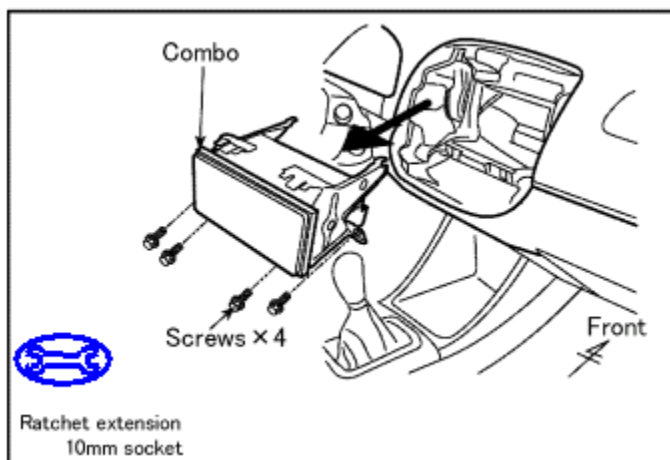
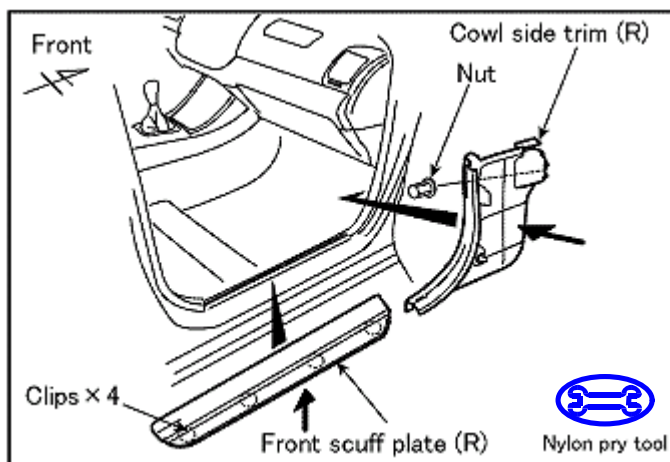

Figure B1
Figure C1
-  1. Use 10mm socket and extension to remove screws located on combo. (Figure B1)
C. Remove the Front Scuff Plate (R) and Cowl Side Trim (R)
-  1. Use nylon pry tool to disengage clips on front right scuff plate. (Figure C1)
2. Remove front scuff plate. (Figure C1)
3. Remove right cowl side trim nut by turning counter clockwise. (Figure C1)
4. Remove cowl side trim. (Figure C1)